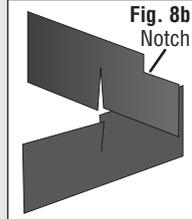

Fig. 8b
- Cut another strip measuring  $4\frac{1}{8}$ " x 1". Along the top edge, cut a notch  $\frac{3}{4}$ " w x  $\frac{1}{4}$ " h (Fig. 8b).
- Assemble Blackout Paper as shown. (Fig. 8b)